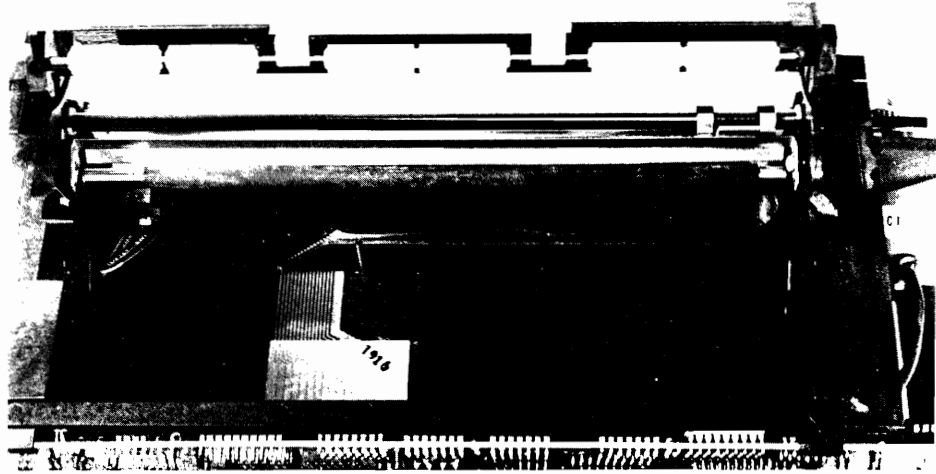

Figure 7-13E. Print Head Assembly in Place
8. Make a similar fold in the flex cable as in the defective flex cable and route it along the TPM. (See figure 7-13E.)